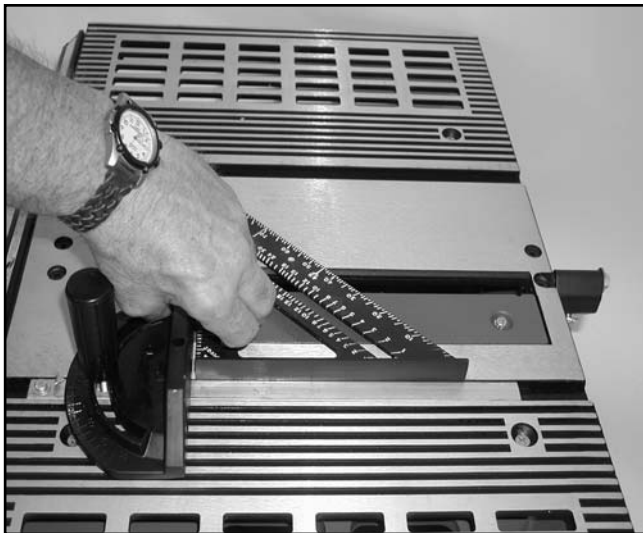

Figure 16. Aligning miter gauge blade slot.
3. Using a square as a guide, adjust the miter gauge until its face is perpendicular to the miter slot. See **Figure 16**.